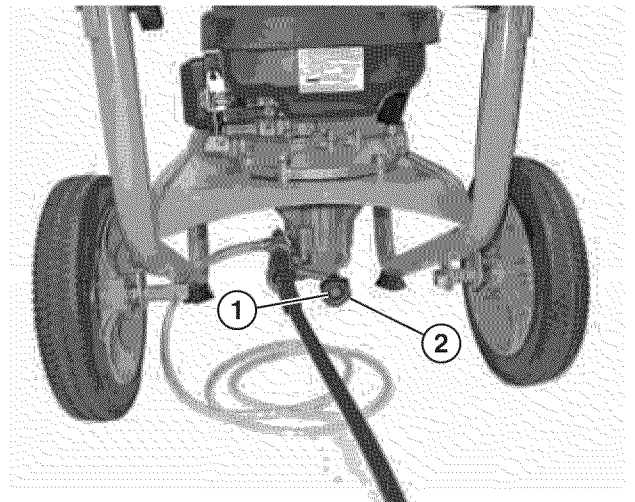
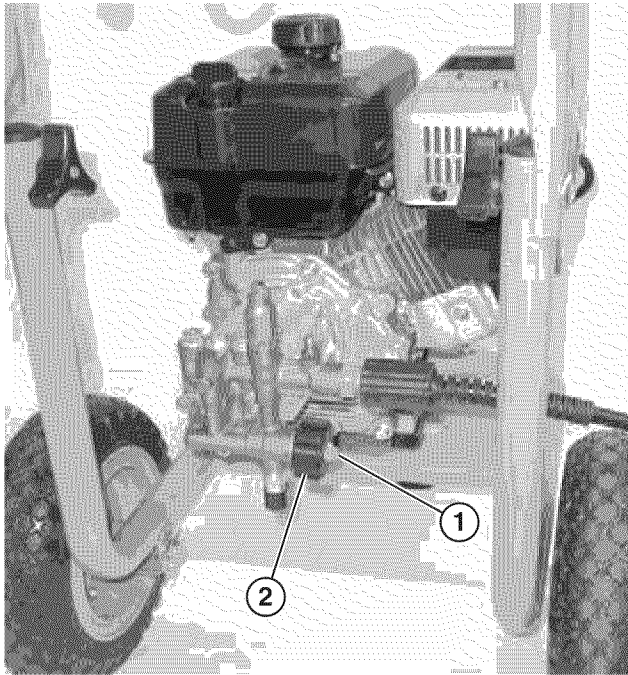

Figure 31 – Water Connection WP2500 Shown
Figure 32 – Water Connection WP3000Z Shown
2. Inspect the water inlet screen to make sure it is in place and free of debris (*see Figure 31*). Do not operate the pressure washer with a missing or damaged inlet screen.
3. Use the shortest hose possible to complete the job at hand. Using a longer hose may affect performance. Connect a garden hose that is not longer than 50 feet (15.2 m) to the water inlet fitting (see Figure 31 and see Figure 32).